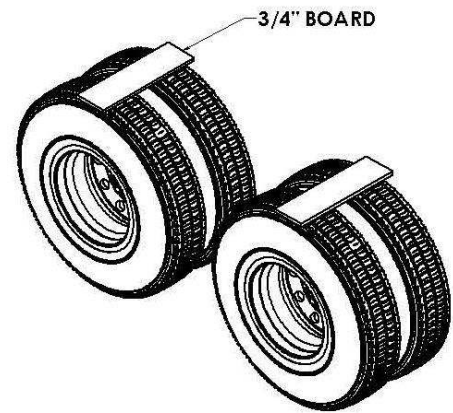

Figure 3
- For an air suspension system, place a 3/4" board on top of the tires after the air has been let out of the airbags (Figure 3). Place the fender on top of the board.